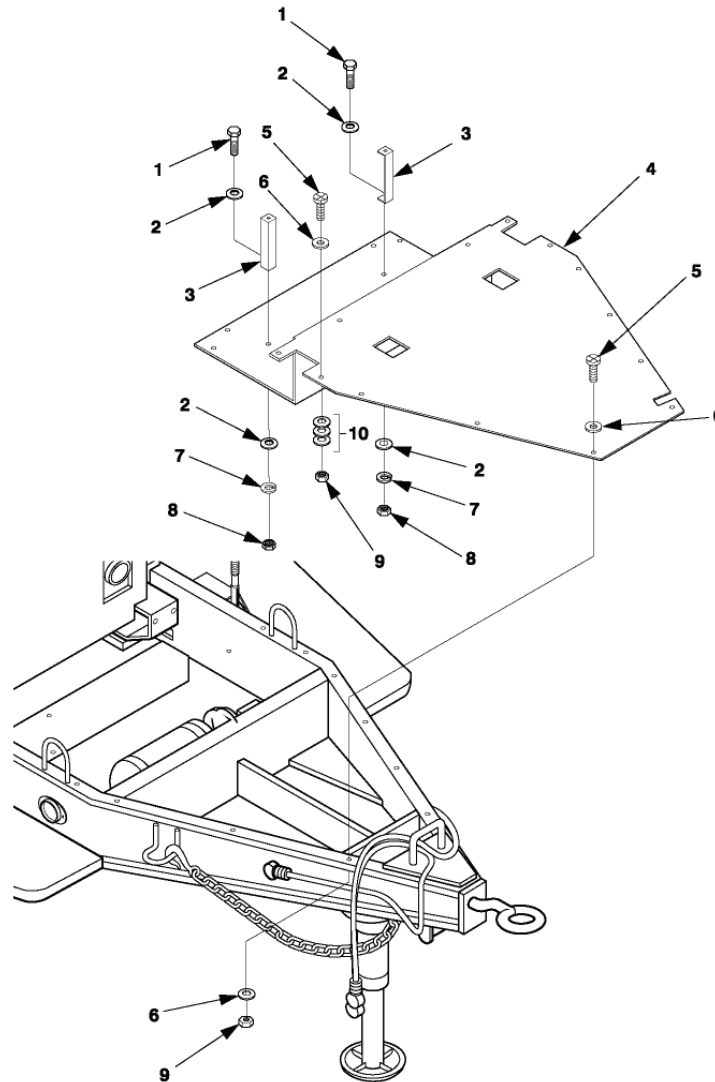
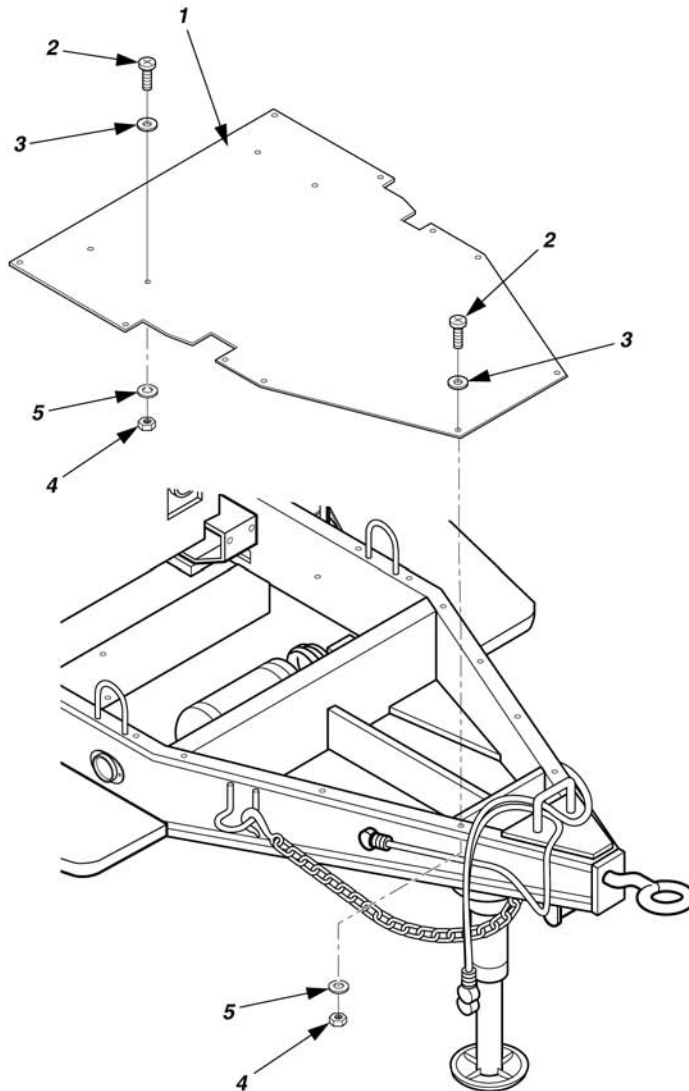

Figure 4-23.1 Front Platform Replacement , 2 ½ Ton Trailer (Older Model)
Figure 4-23.2 Front Platform Replacement, 2 1/2 Ton Trailer (Newer Model)
- a. When removing front platform (4, figure 4-23.1) on Unit A, refer to paragraph 4-12.1 and remove switch box.
- b. To remove switch box supports (3) from the older model platform, remove hex nuts (8), flat washers (2), lock washers (7), and cap screws (1) which secure switch box supports (3). Discard lock washers (7).
- c. To remove the platform from the trailer, remove self-locking nuts (9), flat washers (6 and 10), and cap screws (5) which secure the platform (4) to trailer. Discard self-locking nuts (9).
- b. Remove hex nuts (4, figure 4-23.2), flat washers (3), lock washers (5), and cap screws (2). Discard lock washers (5).
- c. To remove the platform from trailer, remove hex nuts (4), flat washers (3), lock washers (5), and cap screws (2), which secure new platform (1) to trailer. Discard lock washers (5).
This platform (figure 4-23.1) is used with power plants equipped with older model switch boxes.
This platform (figure 4-23.2) comes with drill holes to accommodate Unit A. Unit B platform does not contain drill holes.